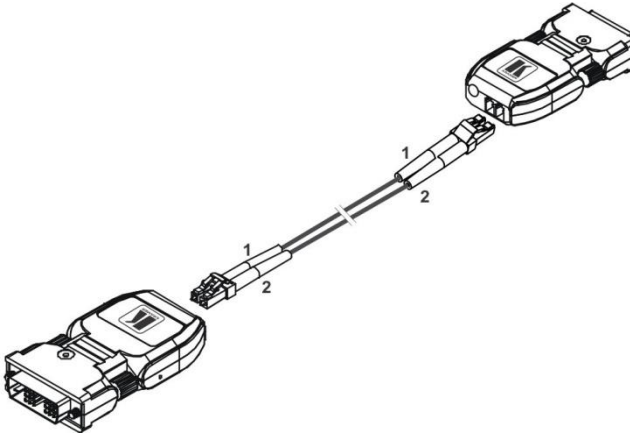

Figure 3: Connecting the Fiber Optic Cables
3. Connect the duplex LC fiber cables to the **602T** and **602R** modules, one cable at a time, as illustrated in Figure 3.
4. Plug the **602T** DVI connector **directly** to the DVI connector of the computer. Do not use any intermediate cable or adapter between them, and connect cables 1 and 2 as indicated in Figure 3.